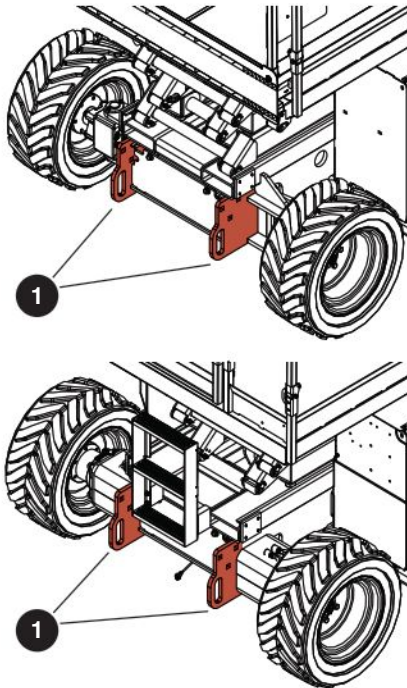

Figure 06 Tie-downs/lift points
- Attach the rigging to all **four lift points** ①. Refer to Figure 06.
When you transport the MEWP, it must be attached to a truck or trailer deck. Use the available tie-down points ① to attach the MEWP. Refer to Figure 06. If you do not obey, there is a risk of death or serious injury.
- Tie-down the MEWP to the transport vehicle using the **tie-down points** ①. Refer to Figure 06.